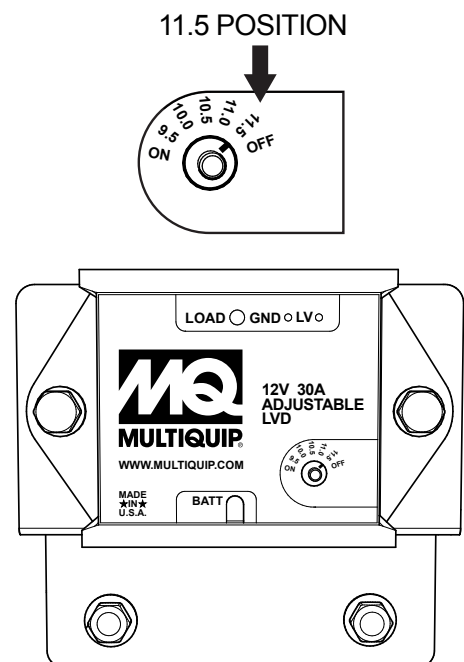

Figure 6. 11.5 LVD Module Voltage Selection
7. Adjust the LVD module (P/N 14056) switch to the 11.5 position as shown in Figure 6.